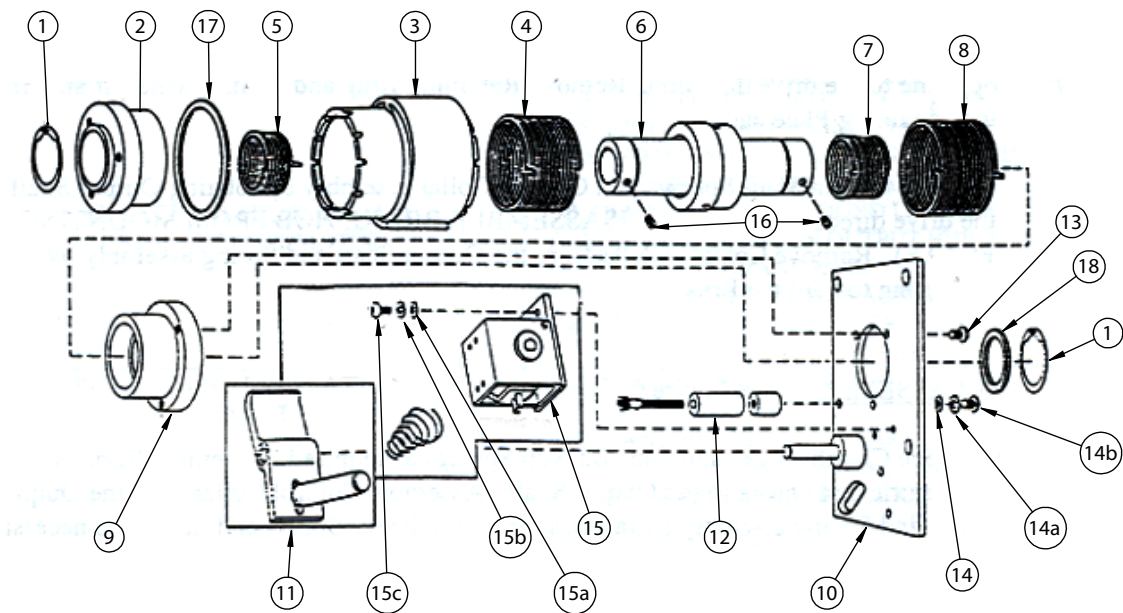

Figure 5-Clutch Brake
6.3 DISASSEMBLY (See Figure 5)
6.4 ASSEMBLY (See Figure 5)